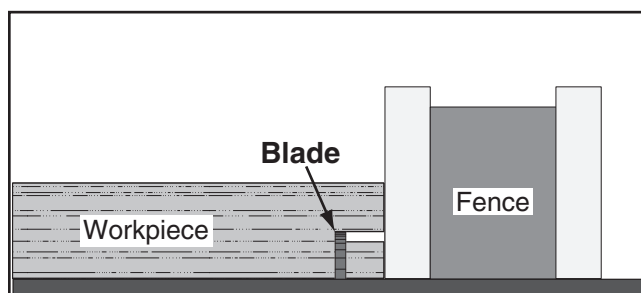

Figure 67. Second cut to create a rabbet.
7. Lay the workpiece flat on the table, as shown in **Figure 67**, adjust the saw blade height to intersect with the first cut, then perform the second cut to complete the rabbet.